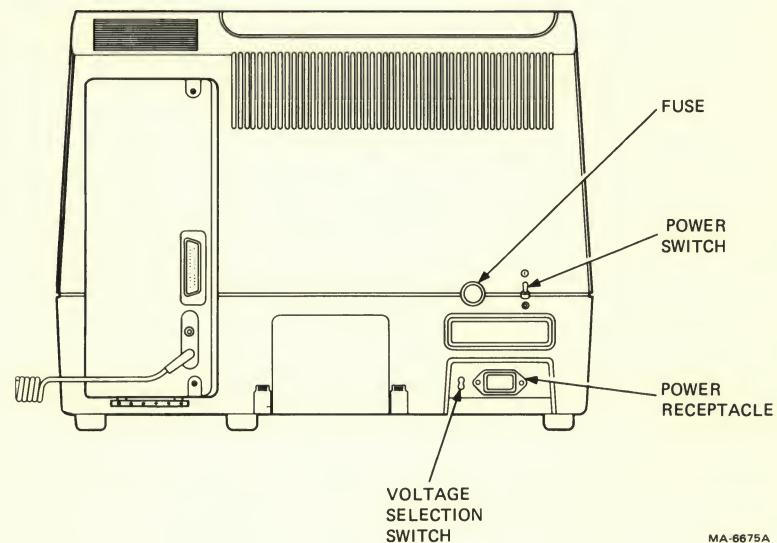

Figure 1-3 Monitor Controls
The terminal has two controls on the monitor backpanel. The controls are the voltage selection switch and the power switch (Figure 1-3). The following paragraphs describe the monitor controls.
1. Turn the power switch to the on position (Figure 1-3). The terminal automatically runs a power-up self-test to verify the terminal is operating correctly. The test provides the following indications.